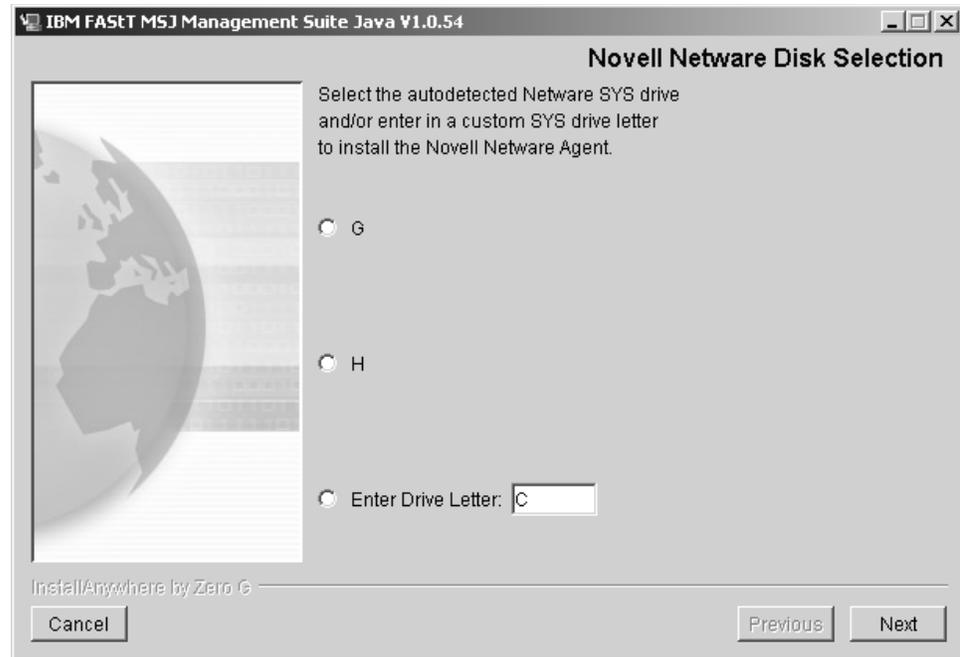

Figure 2. Novell NetWare Disk Selection window
8. If you are installing on a NetWare system, the Novell NetWare Disk Selection window is displayed (see Figure 2).